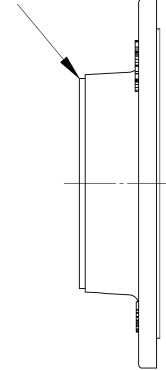

Figure 1
3. Install a new gasket (26A) and hydraulic motor adapter (135) on the pump head. Install capscrews (28A) through the adapter, torquing to 30-lbs. ft (40 Nm.).
4. To assure proper shaft alignment between the hydraulic motor and pump, install the hydraulic motor adapter (135) to align with the machined pilot/shoulder on the pump head. **NOTE: The head must be replaced if it is not machined with a pilot/shoulder — consult factory.** See Figure 1.
5. Grease the hydraulic motor shaft. Install the coupling key (35) in the hydraulic motor shaft and align the key with the notch in the coupling. Attach the hydraulic motor to the adapter using the adapter/motor capscrews (135A), torquing to 40-lbs. ft (54 Nm.).
6. Apply grease in the hydraulic motor adapter through the grease fitting (76).